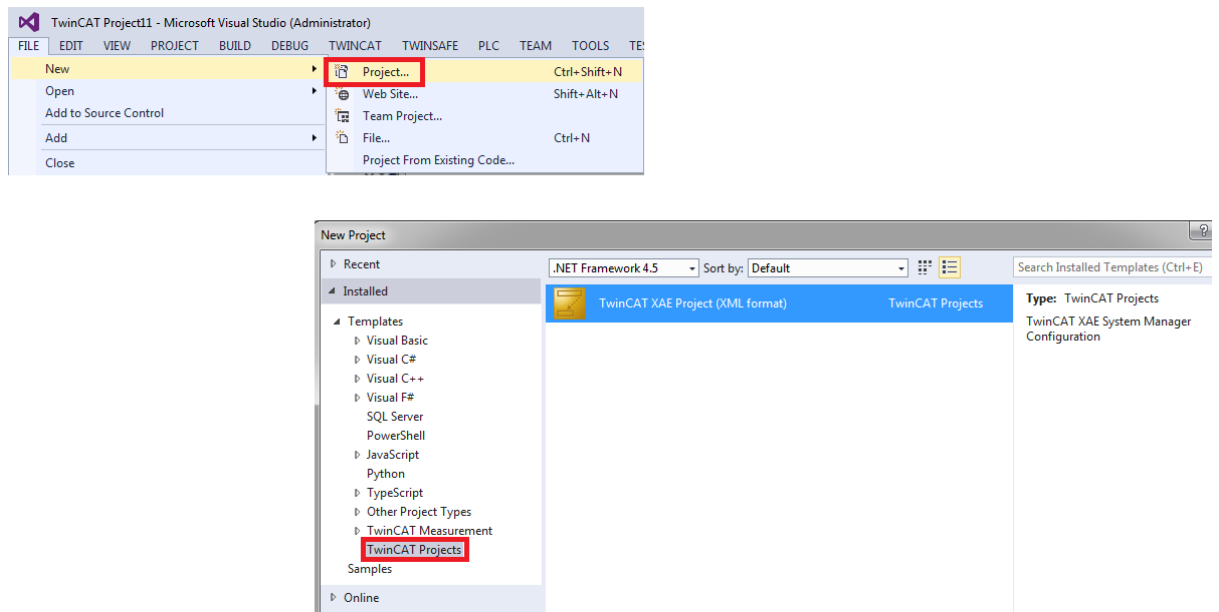

Figure 3: create a new TwinCAT project
- e. New TwinCAT projects can be created based on the custom template (Figure 3).